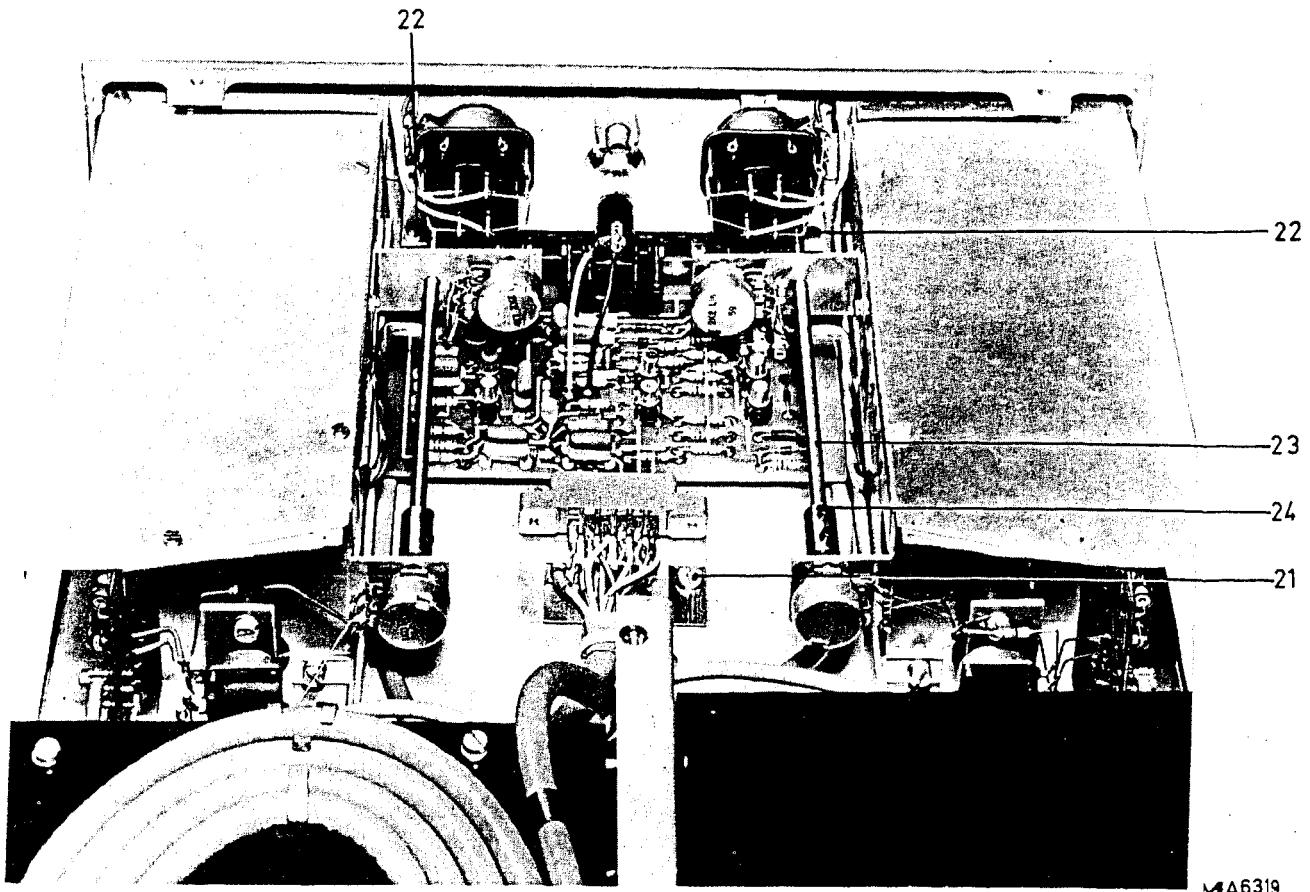

Fig. 44. Dismantling; bottom view (detail)
L. REMOVING SWITCH UNIT 5 (Fig. 44)